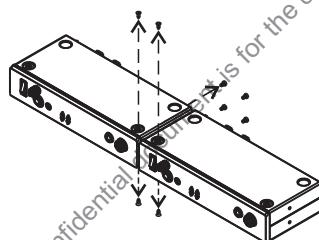

Fig. 5
(A) Remove top and bottom screws, as Fig. 5